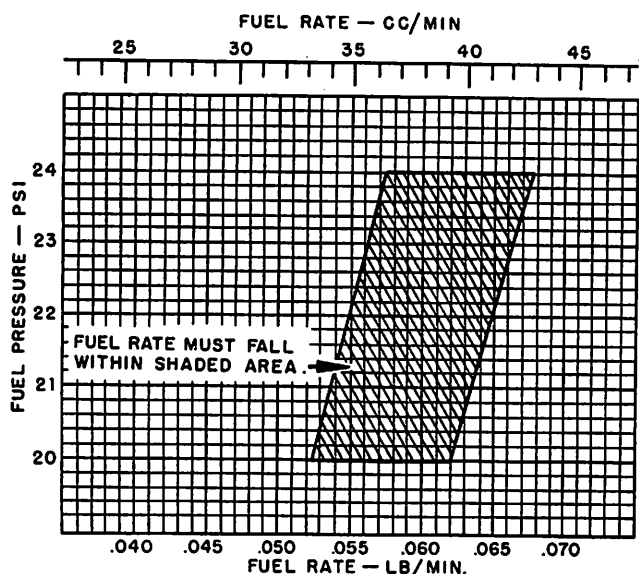
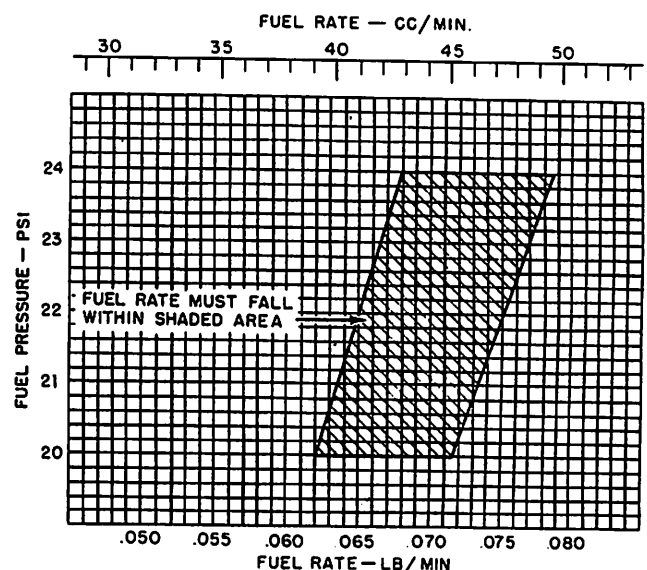

Figure 7-1. Nozzle Flow Rate, 8240 Series Heaters
Figure 7-2. Nozzle Flow Rate, 8259 Series Heaters
e. If the fuel rate of the nozzle is questionable but the spray angle and pattern are satisfactory, the flow rate through the nozzle should be checked at this time. Arrange the nozzle to spray down into a funnel which drains into a graduate. The proper flow rate in cc/min for the 714710 nozzle used on the 8240 Series heater is shown for a small range of fuel pressures in figure 7-1. The flow rate for the 716295 nozzle used on the 8259 Series heaters is shown in figure 7-2.